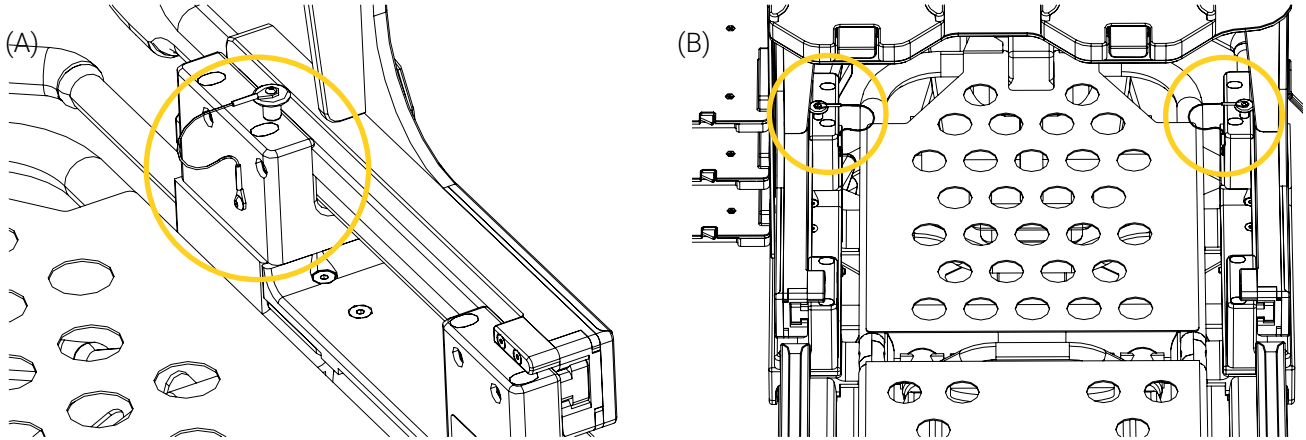

Figure 32: Lock pins installed
20. Reinstall the lock pin on the clamp block on the both sides of the mobile structure (Figure 32), making sure that the lock pins are properly inserted.